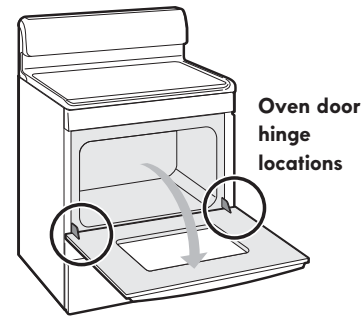

Figure 21: Oven hinge locations
1. Open oven door completely (horizontal with floor - Figure 21).
3. Fully open the oven door (horizontal with floor - Figure 21).